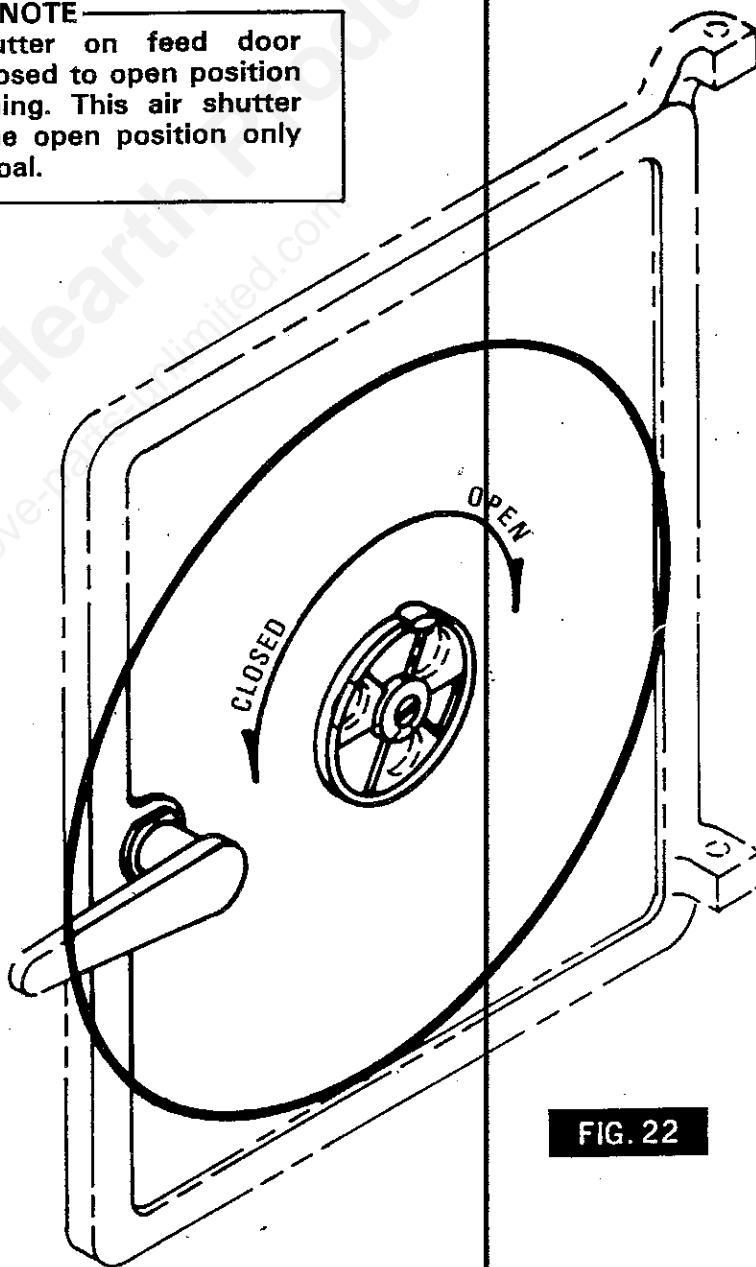

FIG. 22
- d. Adjust air shutter on feed door damper from closed to open position for better burning. (See Fig. 22). This air shutter should be in the open position only when burning coal.